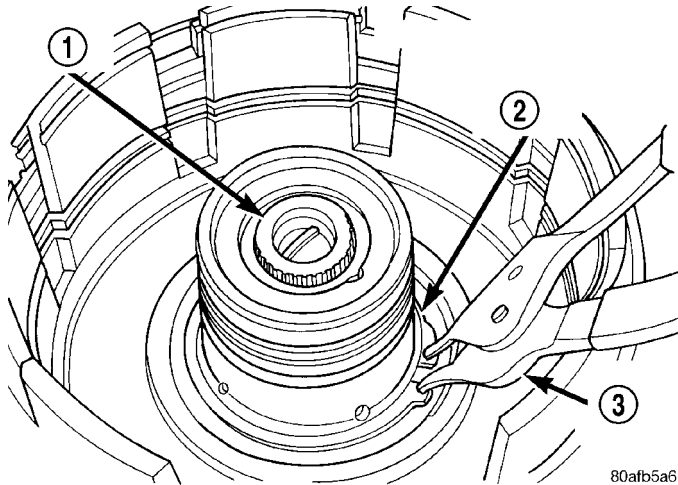

Fig. 206 Input Hub Tapered Snap Ring
(15) Remove input hub tapered snap ring (Fig. 206) (Fig. 212).